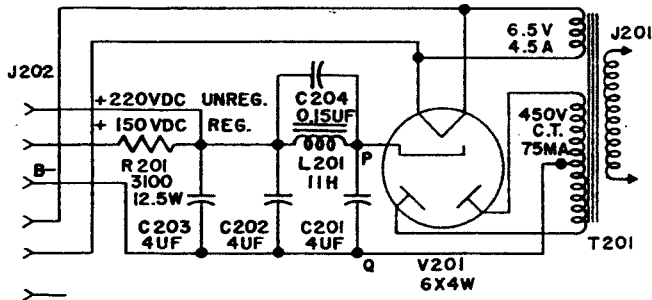

Figure 2-12. Simplified Schematic Diagram of the Power Supply PP-977/URM-25D
(See figure 2-12).
a. The plate supply voltage derived from the high voltage secondary and rectifier tubes (points "PQ" on figure 2-12) is approximately 220 volts DC and must be reduced to the required 150 volts DC regulated supply for tubes V101 and V103. This voltage drop is achieved by the DC series dropping resistor (R201). A pi filter network consisting of a choke (L201) and three 4 microfarad capacitors (C201, C202, C203) is provided as a ripple filter. The two capacitors (C202, C203) are connected in parallel to increase the effective capacitance. A single 8 microfarad capacitor would introduce a problem of physical location. An additional 0.15 microfarad capacitor (C204) is inserted in parallel with L201 to form a 120 cycle resonant filter. This resonant filter lowers the 120 cycle power supply hum level.
tically constant. If the supply voltage (points "PQ" on figure 2-12) drops, the voltage across the glow tube (V108) would tend to drop. However, the gas in the glow tube deionizes slightly and less current passes through the tube. The current passing through the series DC dropping resistor (R201) is also decreased by the amount of this current decrease in the glow tube. This would develop sufficiently smaller voltage drops across the series DC resistor to maintain the required stable 150 volts drop across the glow tube. A rise in supply voltage is similarly compensated for.